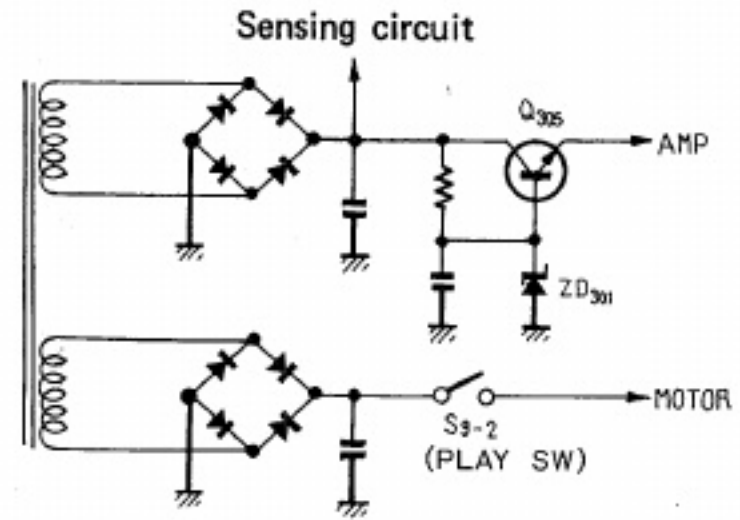

Fig. 7
**6.3 POWER SUPPLY CIRCUIT (Fig. 7)**